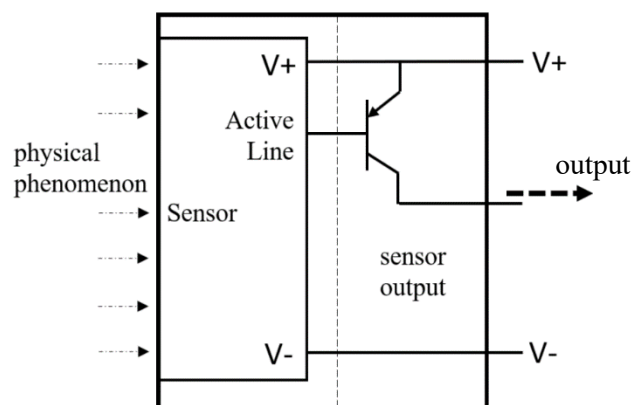

Figure A1(a)/Rajah A1(a)
- a) A logical sensor can be used with sourcing (PNP) or sinking (NPN) techniques for output wiring. Based on Figure A1(a), explain the operation of a sensor using the sourcing (PNP) technique in terms of the sensor's active and inactivated states.